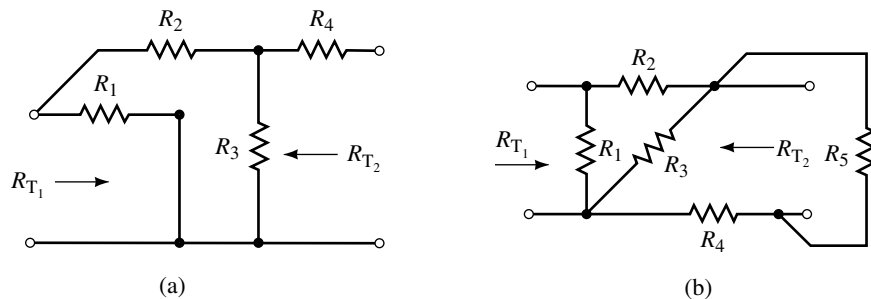

FIGURE 7-49
- Write an expression for both R_{T1} and R_{T2} for the networks of Figure 7-49.